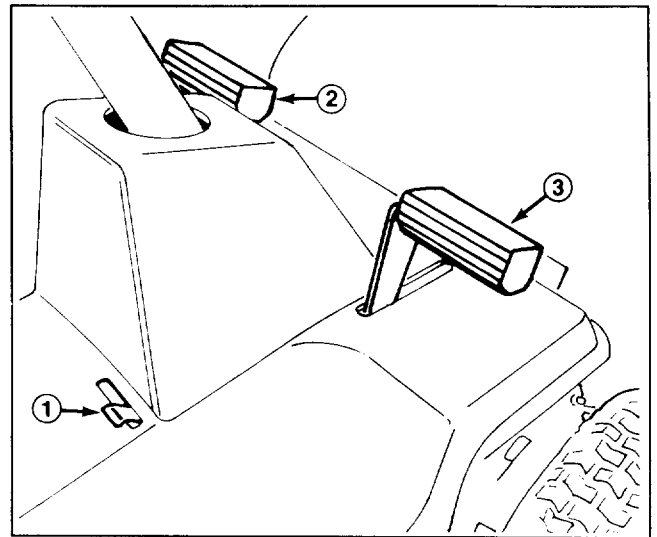

Figure 6
**Clutch Pedal (Fig. 6)** – Foot-operated clutch pedal is used in conjunction with gear shift. Depress clutch pedal fully when shifting gears. Depress clutch pedal whenever brake is used.
**Brake Pedal (Fig. 6)** – Foot-operated brake pedal must be depressed to slow down or stop the rider. When pedal is depressed, a caliper engages the brake disc on the side of the transmission. Always depress clutch pedal when using brake.
**Parking Brake (Fig. 6)** – Parking brake must be used in conjunction with brake pedal. When pedal is depressed and end of parking brake lever holds brake pedal in depressed position, a caliper engages the brake disc at side of transmission.
**Ignition Switch (Fig. 6)** – Switch has three positions: ON, OFF and START.
1. Engage the parking brake (Fig. 6): refer to using Parking Brake, page 14.
2. Move parking brake control to the left and release brake pedal until it contacts end of parking brake lever (Fig. 6).
3. To release the parking brake, depress brake pedal (Fig. 6), which will allow parking brake lever to return to its disengaged position. Then release brake pedal.